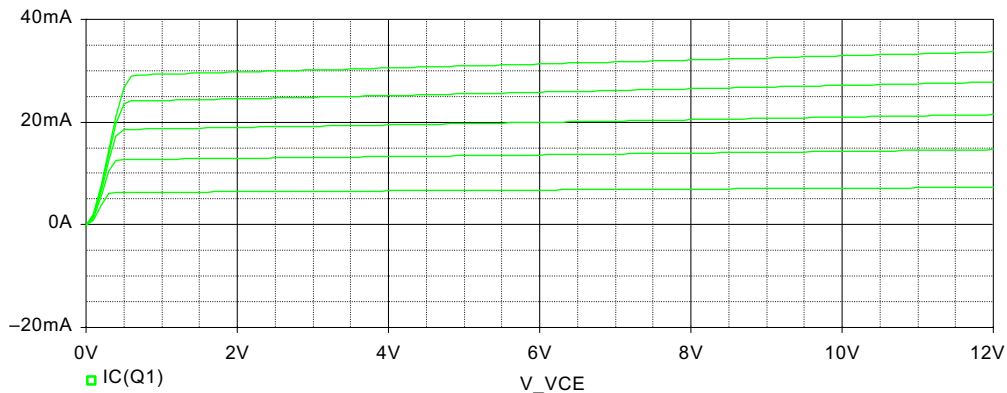

FIGURE 3.25
8. You should see the characteristic curves shown in Figure 3.25.